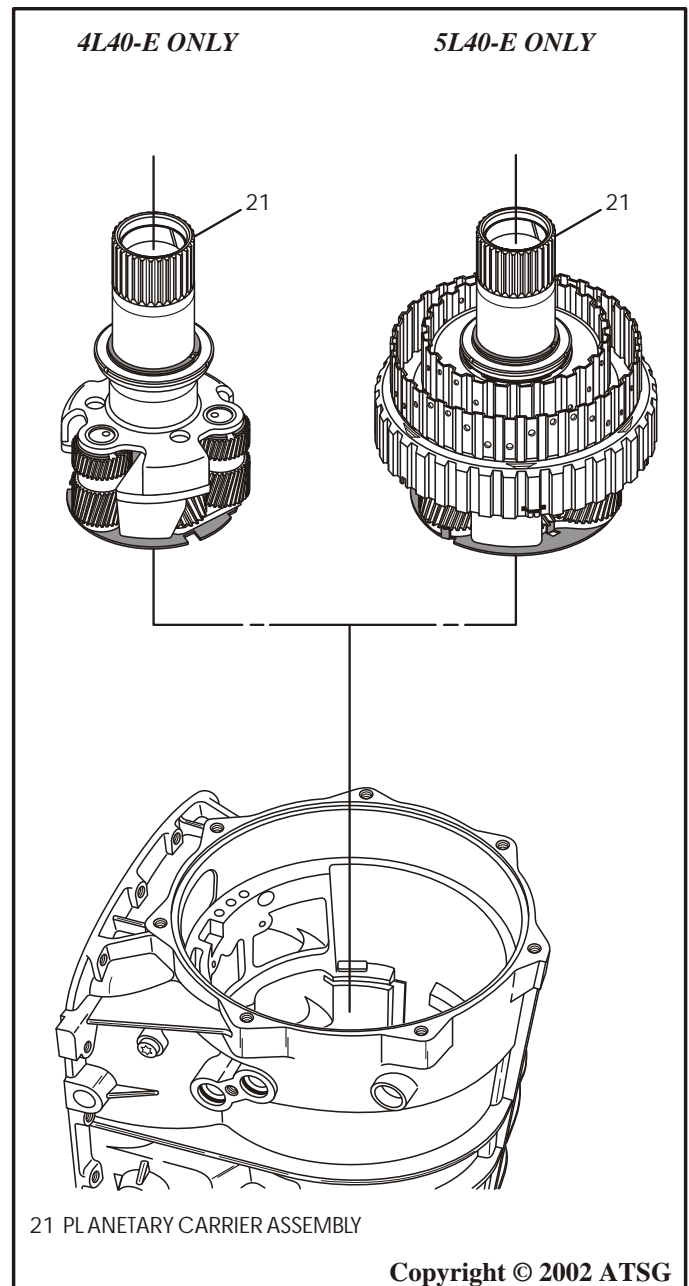

Figure 175
2. Install pre-assembled planetary carrier system, as shown in Figure 175, by rotating down into position.
**Note:** *We have illustrated both the 4L40-E and the 5L40-E in Figure 175.*